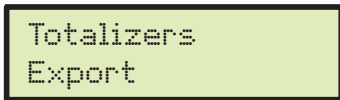

Fig. 77
- It is possible to save the totalizer reports on pendrive using the relevant function Export (Fig. 77).
- Select Export (Fig. 77) and press **OK**.